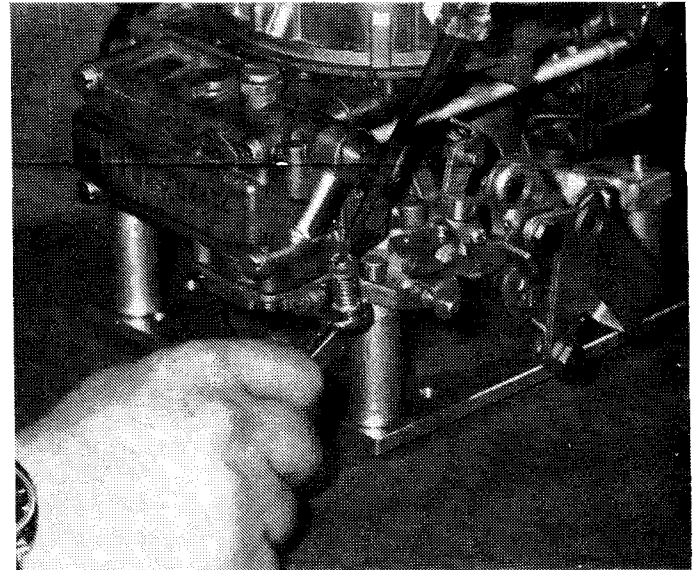

Fig. 3: .015 clearance is obtained by adjusting override spring screw as shown.
8. After making this adjustment, move the throttle lever from a closed position toward open. Any movement at the throttle lever should be noticed at the pump operating lever. This indicates correct tip-in. This is adjusted as illustrated in Fig. 3.